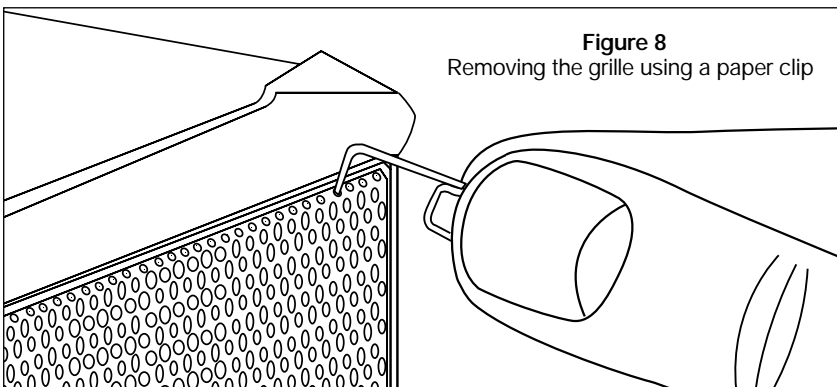

Figure 8
1. Separate the parts of the speaker. You should remove the brackets and the bracket knobs. Remove the grille by hooking it with a bent paper clip or the tip of a corkscrew and pulling it away from the cabinet (**See Figure 8**).